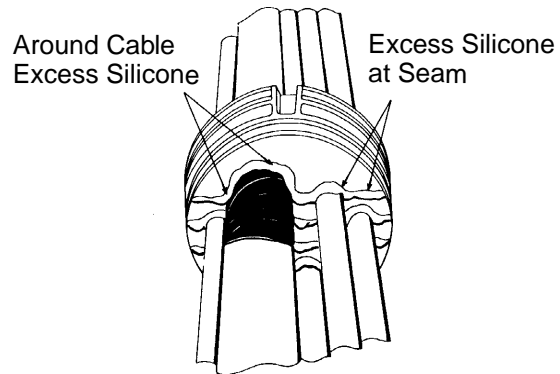

FIGURE 30 - COMPLETED APPLICATION OF CABLES
6.48 The silicone will be extruded out from all the seams, **DO NOT REMOVE EXCESS SILICONE AT THIS TIME.** (Figure 30)